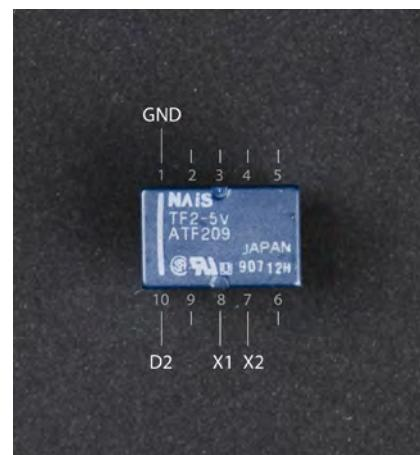

Figure 7-4. Relay circuit connections
The Arduino controls the relay in Figure 7-4. Connect digital pin 2 on the Arduino to the relay pin marked D2, and the Arduino ground to the relay pin marked GND. Connect the external component you wish to control to the X1 and X2 pins. When D2 is switched on (HIGH), the relay will connect pins X1 and X2 to each other.
- Connect Arduino's +5V pin with a red jumper wire to relay pin 8, the middle one in the bottom row. Pin 8 is marked as X1 in Figure 7-4.
- Connect the LED's positive (longer) leg to relay pin 7. Pin 7 is in the bottom row, second from the right. It is marked X2 in Figure 7-4.